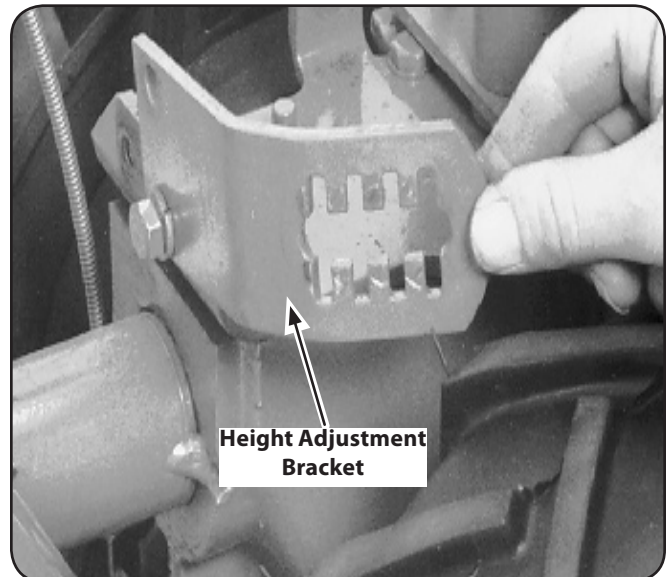

Figure 3-1
1. On electric start machines, remove one screw and lockwasher from the curved height adjustment bracket. Loosen the second screw and swing the bracket to one side. See Fig. 3-1.